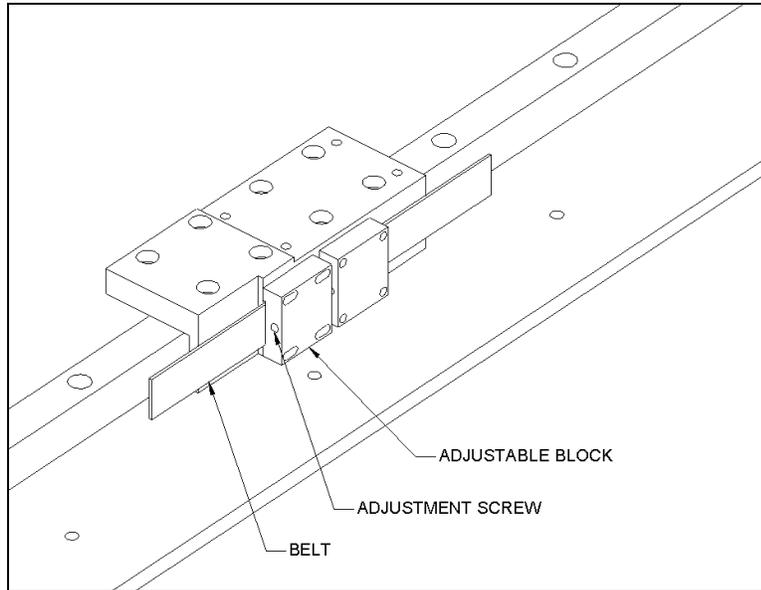

Figure 7-64 Mounting the Adjustable Block
- 2 Route the belt around the pulleys, then fit the Adjustable X Belt Block (Part No. 204002700) to the left end of the datum block (Figure 7-64). Make sure that the belt is properly located and flush with the end of the block and affix using 4 M3 x 12 skt cap screws, 4 M3 Washers and Loctite 222.
- 3 Fit the adjustment screw (Part No. 303000335) through the adjustable block and into the fixed block (Figure 7-64).